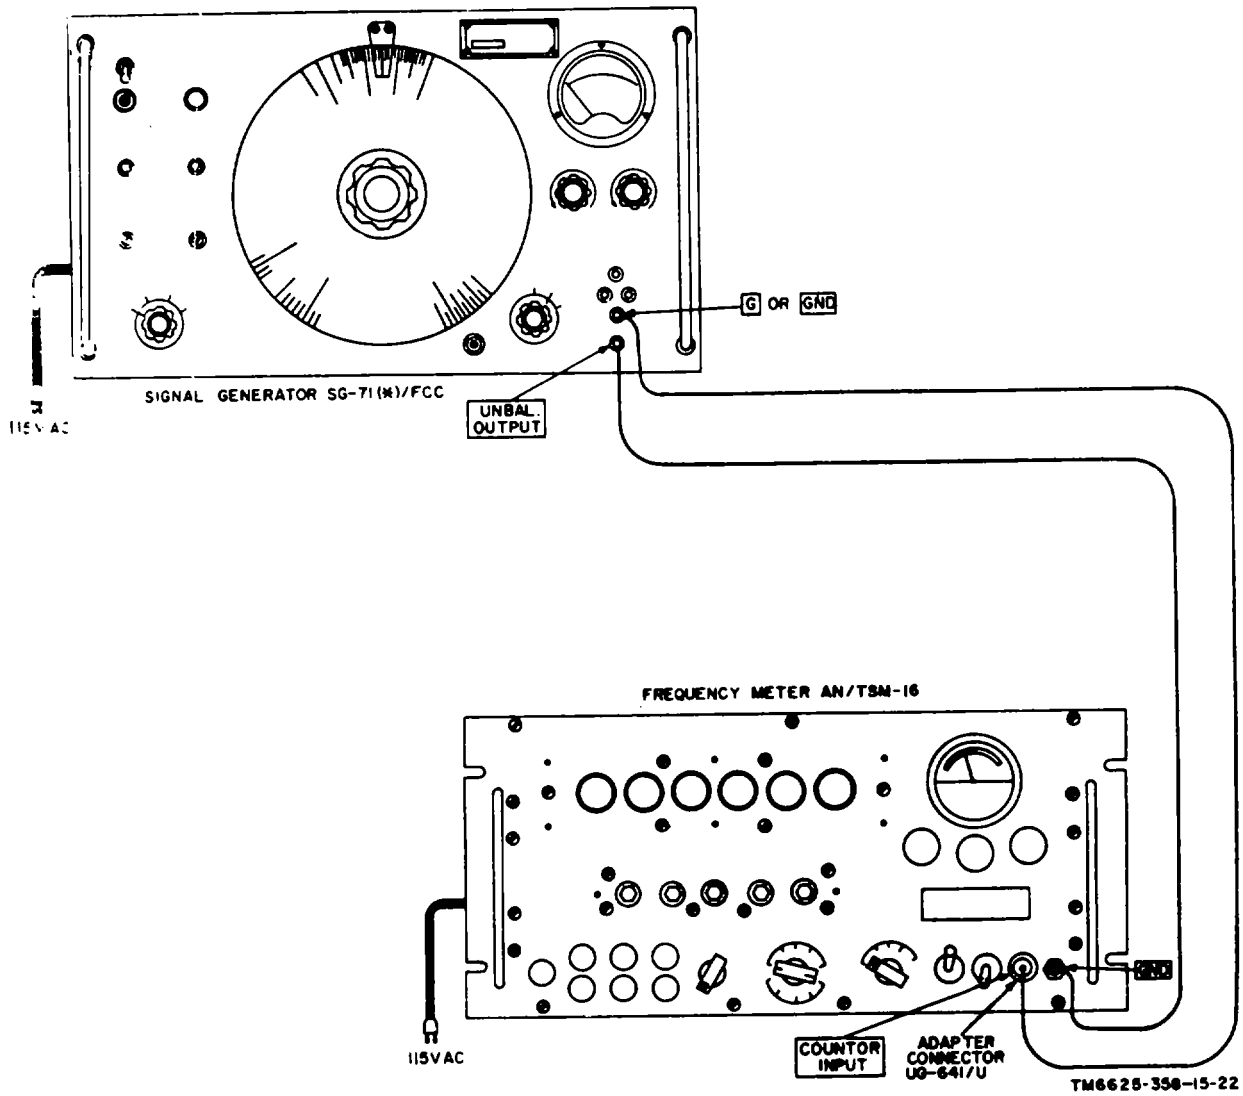

Figure 8-2. Frequency calibration, test setup.
- (1) Connect the equipment as shown in figure 8-2.
- (2) Allow the equipment to warm up for at least 20 minutes before the test procedure is started.